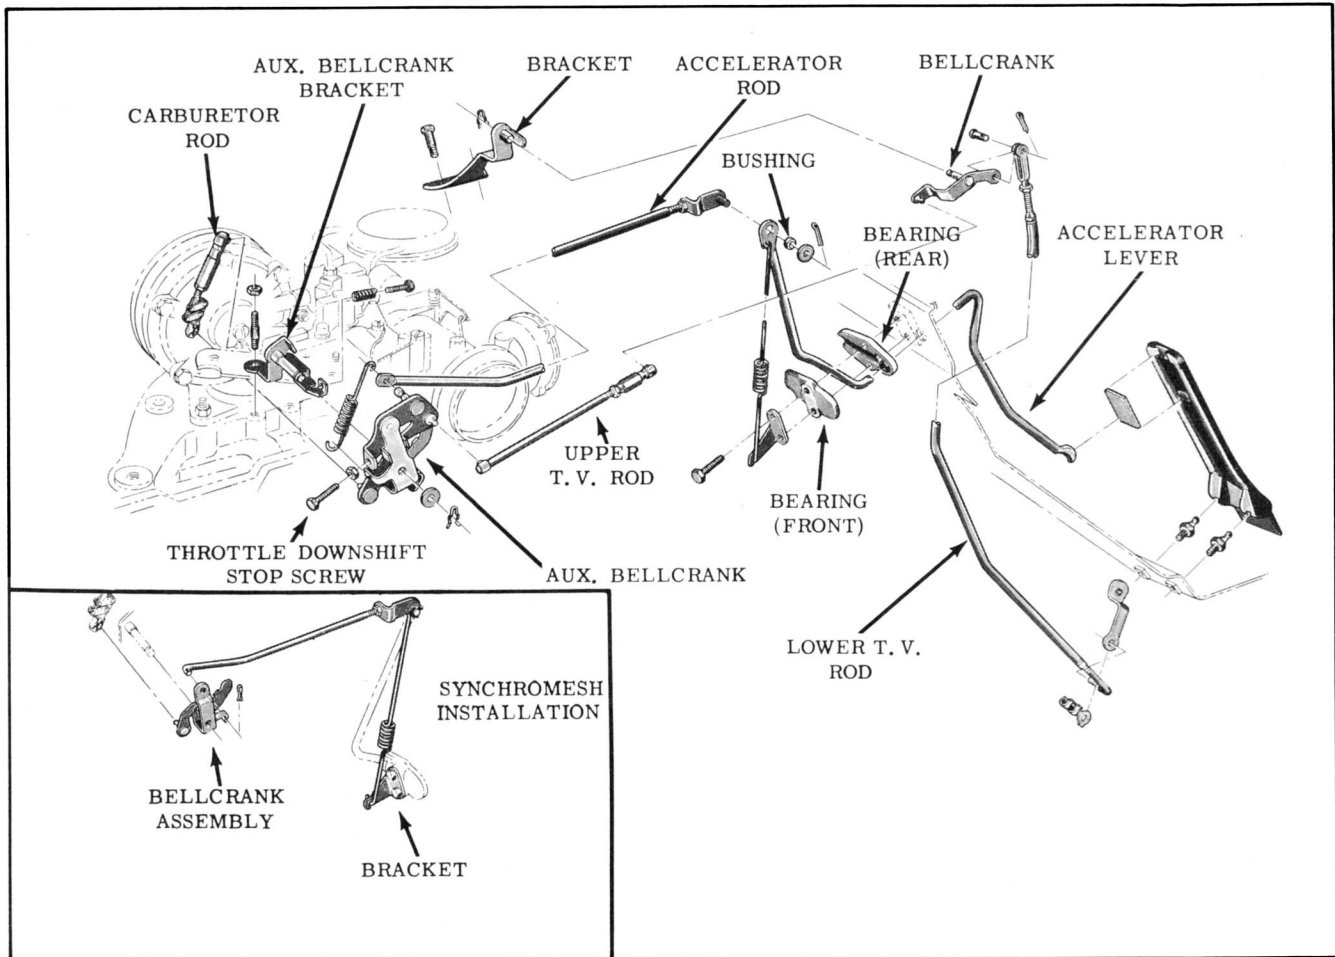

Fig. 8-129 Throttle Linkage
16. Loosen the throttle downshift stop screw lock nut and back off stop screw approximately six (6) turns. With the accelerator lever, move the linkage to point of maximum transmission T.V. lever travel. (Fig. 8-129)